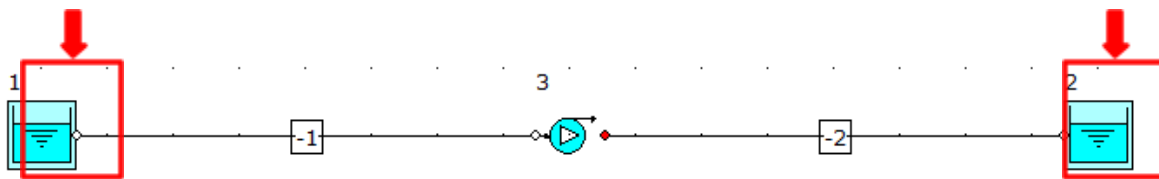

Figure 10: Highlighted Boundary Nodes.
- Left mouse-click on the inlet boundary (node 1) and whilst holding the SHIFT key, left mouse-click on the outlet boundary (node 2). You should now see both nodes highlighted on the flowsheet (Figure 10).